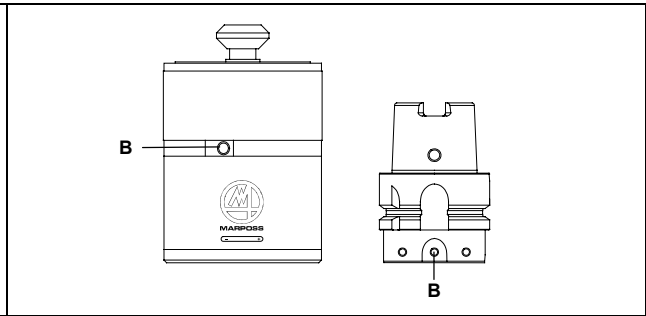

Figure 16-2
Fix the cleaning air support unit (A) in the holes (B) in the transmitter and taper (Figure 16-2). The pressure of the air supplied must be ≤ 6 bar (88.175 psi).